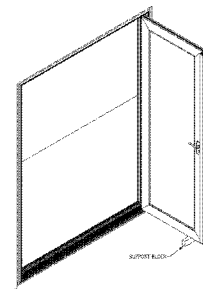

Figure 4
18. Position the door slab as shown in **Figure 4**. Holding the slab in this position using glass cups, will allow manipulation and engagement of the hinge leaf into the jamb.
Important: The weight of the door slab may cause damage to the hinge and bearings during attachment. *Place blocks or other weight bearing material under the door slab, also shown in Figure 4, to protect from damage.*